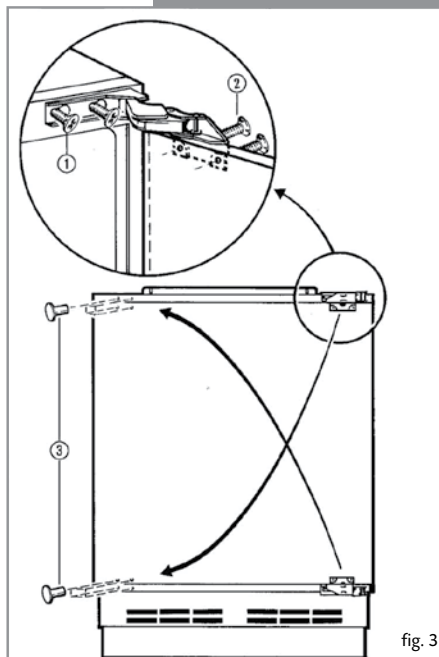

fig. 3
- Loosen the hinge fixing screws (1).
- Lever off the corner caps (3) with a knife blade.
- Insert the hinge fixing screws (1) on the opposite side.
- Remove the door fixing screws (2) and relocate the hinges according to figure 3.
- Locate the door on the hinge fixing screws (1) and tighten.
- Insert the corner caps (3) in the exposed holes.